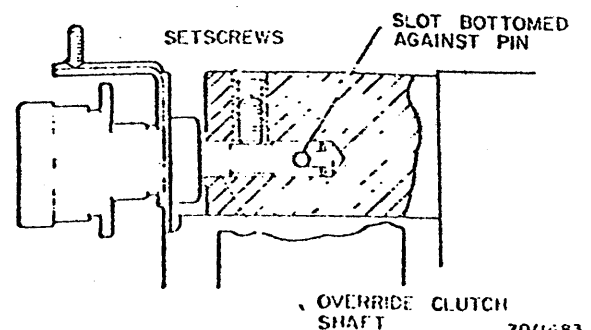

Fig. 3-127. Installation of Override Clutch Shaft
6. Loosen two setscrews for override clutch shaft, shown in Fig. 3-127.